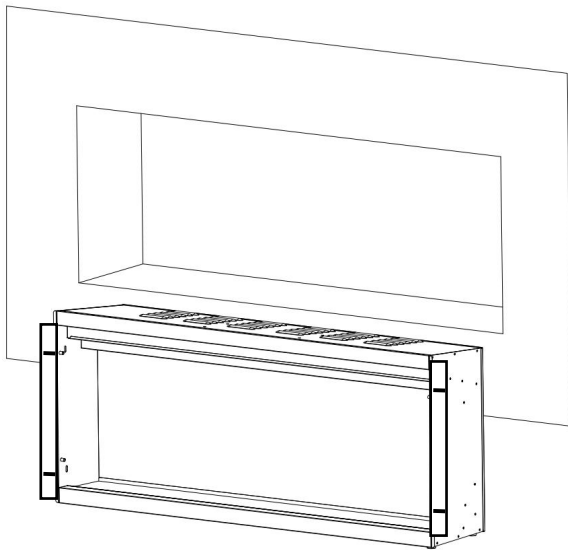
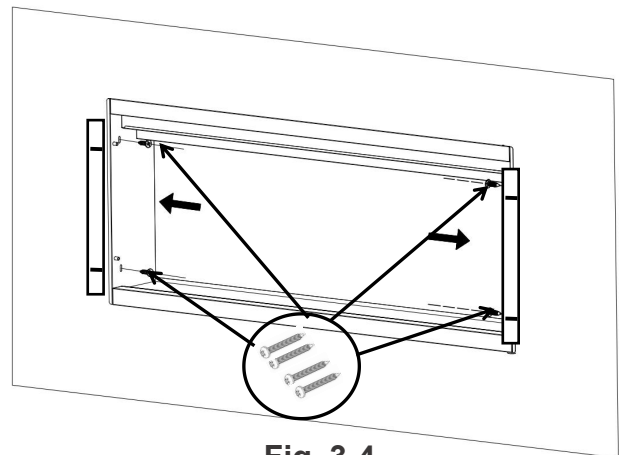

Fig. 3-3
Fig. 3-4
- D. Insert the fireplace into the rough-in frame and then secure it by installing **4** wood screws (**A**) through the holes (Fig. 3-3, Fig 3-4).